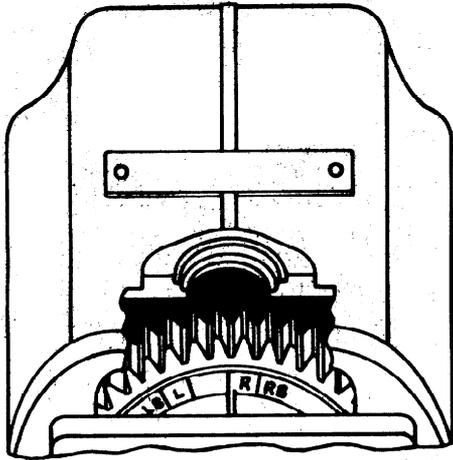

Figure 4. Alignment of Timing Marks on Distributor Gear — 6 Cylinder, Single Breaker, Right Hand Rotation
b. Six cylinder, single breaker types — The timing rib on the distributor block MUST lie between the "L" and "LB" or the "R" and "RB" marks on the gear, and should be nearer to the "L" or "R" mark, depending on magneto rotation. See figure 4.